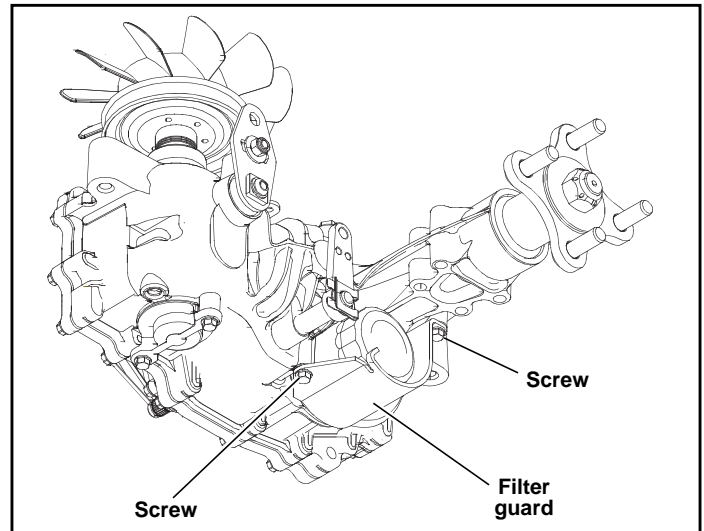

Figure 4-11
2. Remove the three 1/4" filter guard screws and filter guard. Clean any loose debris from around the filter. Figure 4-11
6. Re-install the filter guard with three 1/4" screws. Torque the screws to 65 in.-lbs. each. Figure 4-11